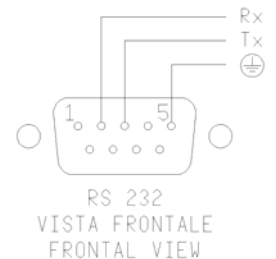

Fig.6
6.3.1.2 - Serial communication (19) RS232/C
For PC control use the serial communication RS 232 (19) (references fig.6)